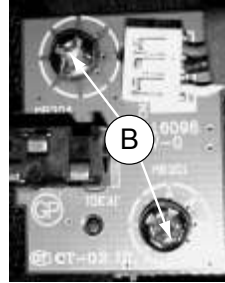

Figure 2
- 1) Loosen 2 screws "B" to remove the MP3 Board as shown in figure 2.